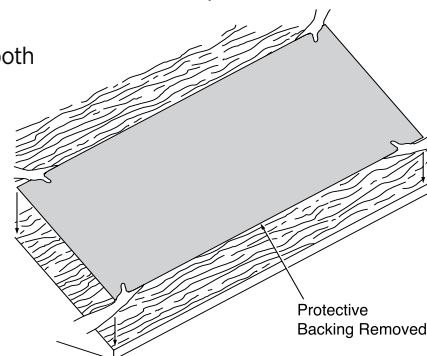

Figure 5-7: Application using the “Fly-In” Method.
4. Drop or “fly” the sheet into place, using great care to assure correct placement (Figure 5-7).